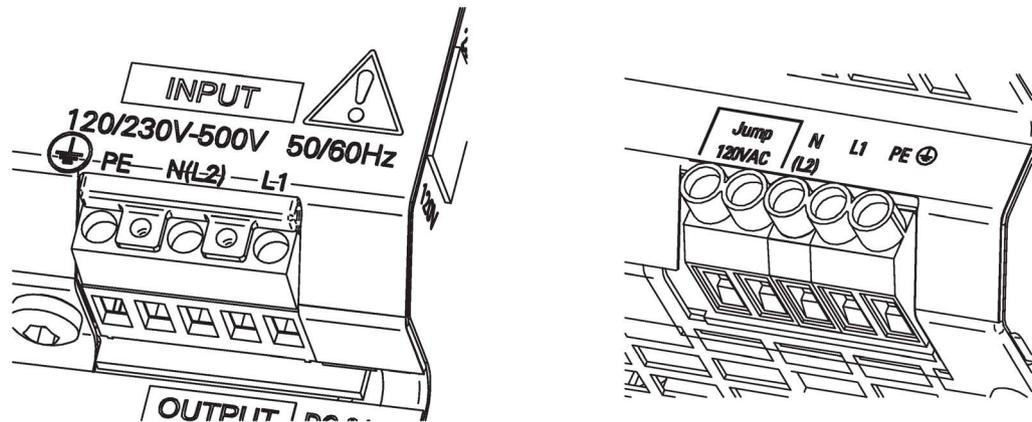

Figure 5-1 Line connection (example, 6EP1334-3BA10 and 6EP1337-3BA00)
The line supply is connected using terminal L1, L2(N) and PE (see Figure 5-1 Line connection (example, 6EP1334-3BA10 and 6EP1337-3BA00) (Page 33)), and must be implemented according to IEC 60364 and EN 50178 .